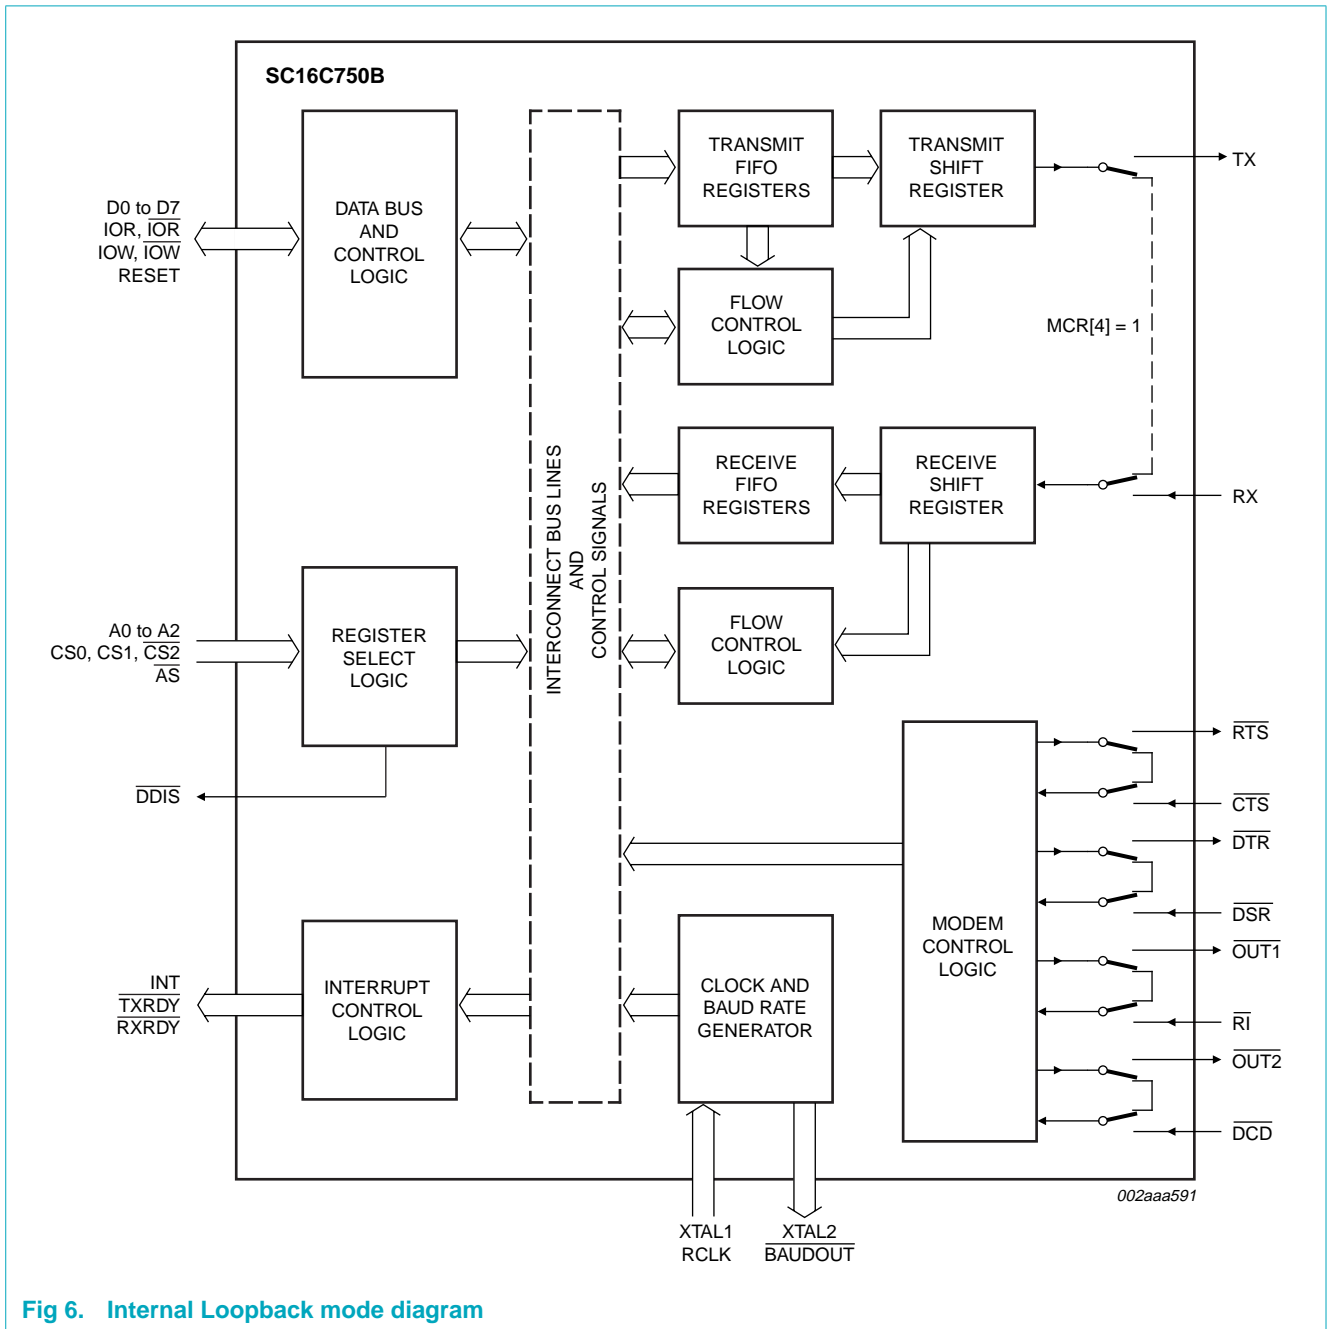

Fig 6. Internal Loopback mode diagram
The internal loopback capability allows on-board diagnostics. In the Loopback mode, the normal modem interface pins are disconnected and reconfigured for loopback internally. MCR[3:0] register bits are used for controlling loopback diagnostic testing. In the Loopback mode, OUT1 and OUT2 in the MCR register (bit 2 and bit 3) control the modem \overline{RI} and \overline{DCD} inputs, respectively. MCR signals \overline{DTR} and \overline{RTS} (bit 0 and bit 1) are used to control the modem \overline{DSR} and \overline{CTS} inputs, respectively. The transmitter output (TX) and the receiver input (RX) are disconnected from their associated interface pins, and instead are connected together internally (see Figure 6). The \overline{CTS} , \overline{DSR} , \overline{DCD} , and \overline{RI} are disconnected from their normal modem control input pins, and instead are connected internally to \overline{RTS} , \overline{DTR} , OUT2 and OUT1. Loopback test data is entered into the Transmit Holding Register via the user data bus interface, D0 to D7. The transmit UART serializes the data and passes the serial data to the receive UART via the internal loopback connection. The receive UART converts the serial data back into parallel data that is then made available at the user data interface D0 to D7. The user optionally compares the received data to the initial transmitted data for verifying error-free operation of the UART TX/RX circuits.